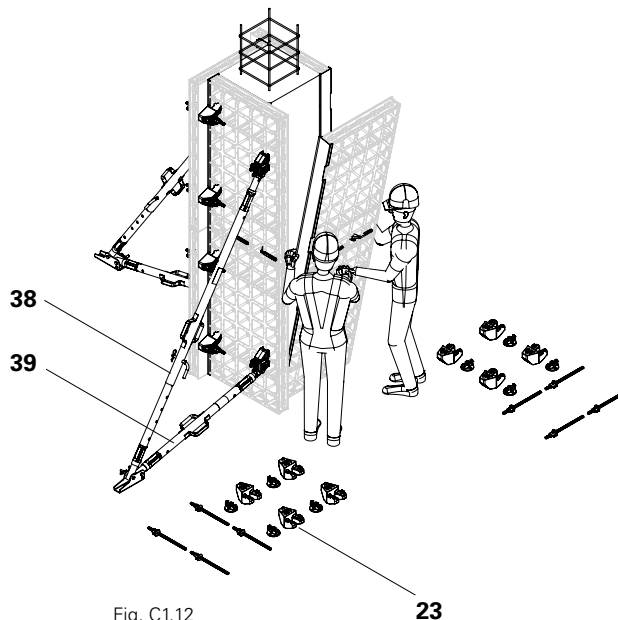

Fig. C1.12
2. Remove the DUO corner connector (23) on both sides of the panel element.
5. Dismantle the push-pull props (38) and kicker braces (39) on the third panel unit.
6. Remove the remaining DUO corner connectors (23).
8. Loosen the base plates of the last panel unit, remove the push-pull props and kicker braces and move the panel unit. (Fig. C1.12)
2. Loosen and remove the DUO corner connector (23) on both sides of the panel element. (Fig. C1.12)